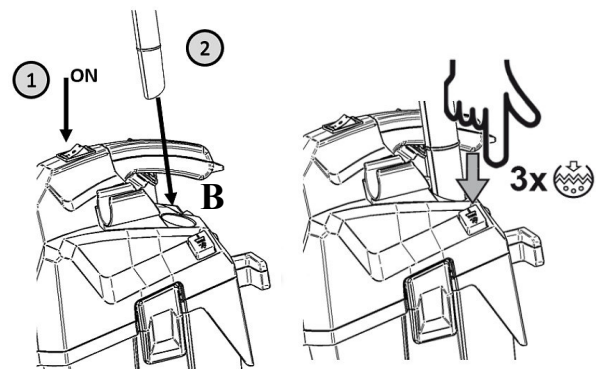

Fig. 13: Filter cleaning system
Step 2: Insert the suction hose into the opening (Fig.13, Pos. B).